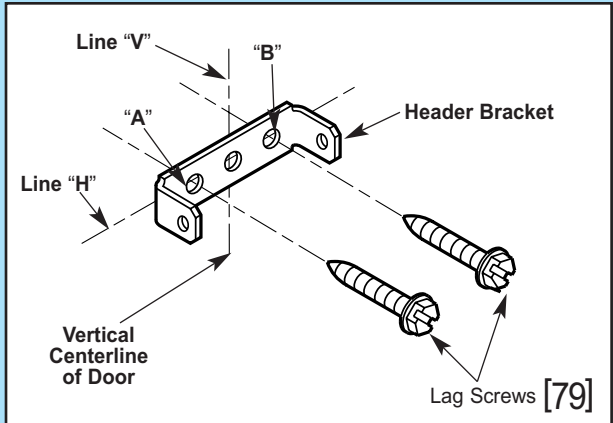
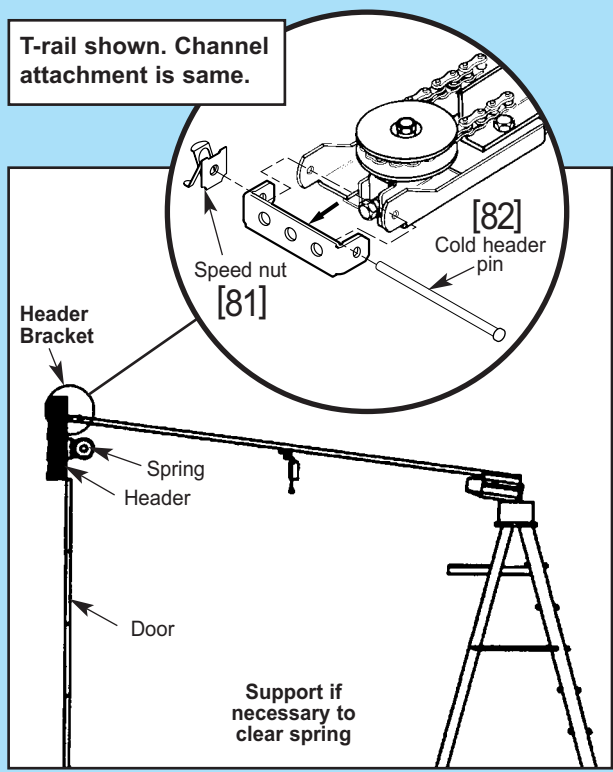

Fig. 2-3
Fig. 2-4
3. **Install header bracket (Fig. 2-3)**
- Fasten bracket to header using two (2) 1/4" x 2" lag screws [79].
4. **Attach channel/rail assembly to header bracket (Fig. 2-4).**